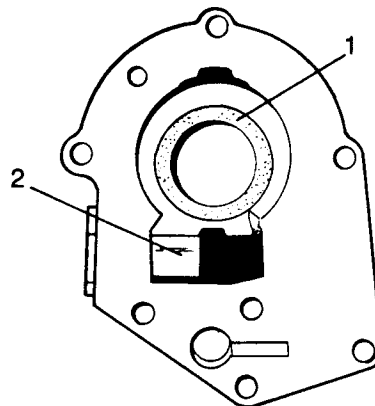

Fig H1.86
- (1) Refer to Fig H1.86. Fit the output shaft oil seal (1) with the sealing lip towards the inside.